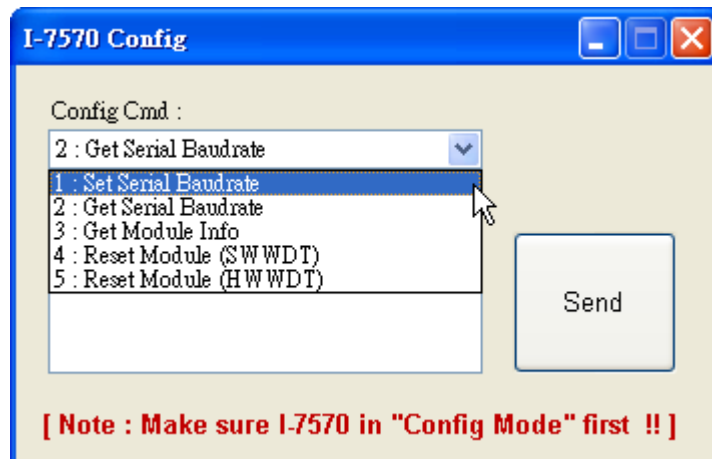

Figure 4-18: “For I-7570” Option - Configuration Screen
2. “For I-7570” Option : (Like Figure 4-18)